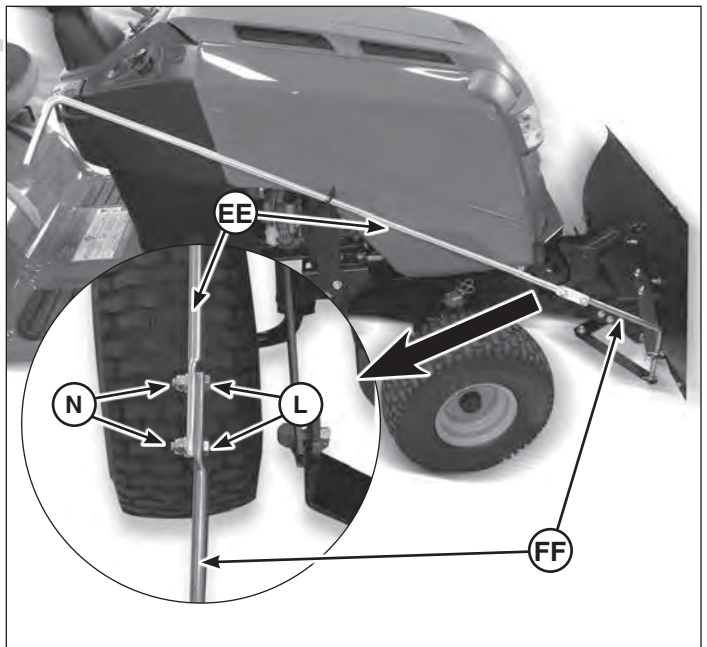

Figure 20
3. Attach the top angle rod (**EE**, Figure 20) to the front angle rod (**FF**) with capscrews (**L**) and nuts (**N**).